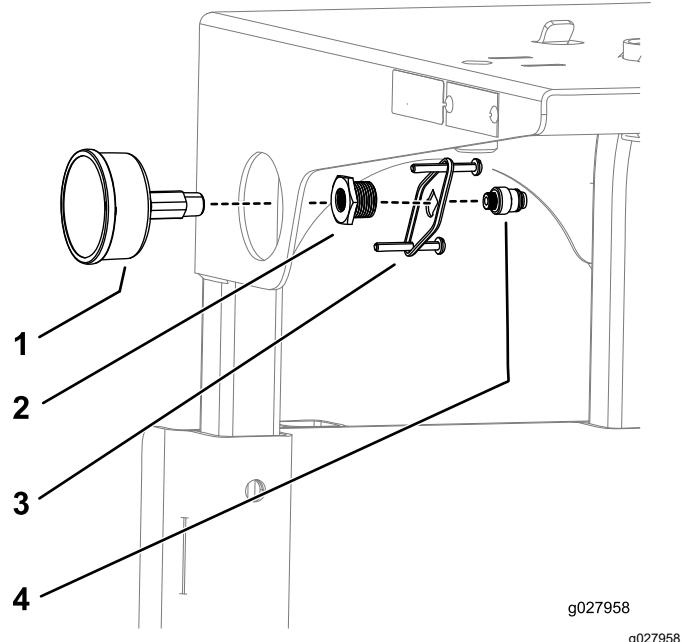

Figure 15
- Apply PTFE tape to the threads on the pressure gauge and install the pressure gauge assembly as shown in Figure 15.